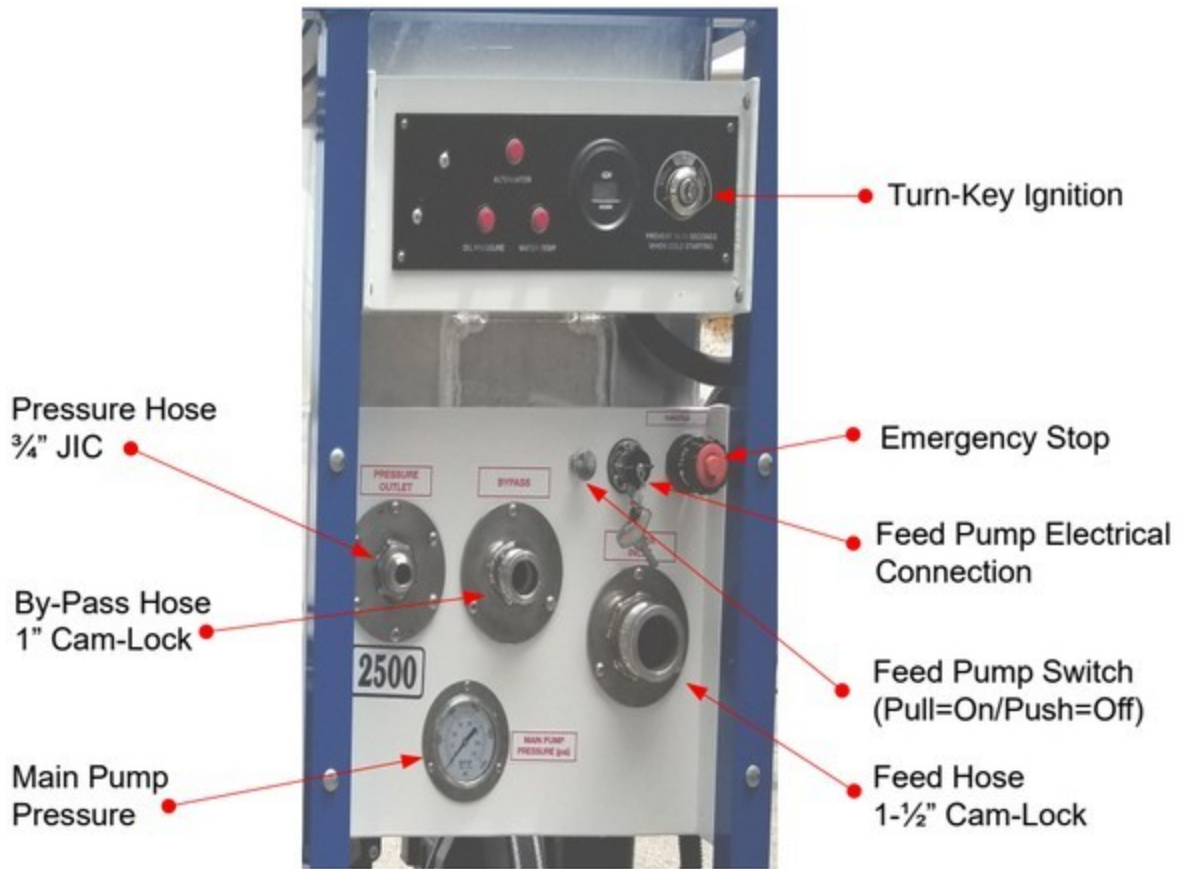

Figure 4.6 – Connecting the Water Source / Feed pump
- Connect the cam-lock socket on the 1" clear PVC feed hose to the water inlet connection on the control panel (Fig. 4.6).
- Pull the feed pump ON / OFF switch out to activate the feed pump (See Fig 4.6).